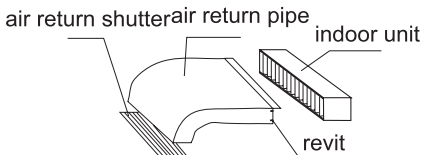

Fig.1
- (1) Cut a hole in the wall and insert connection pipe and connecting wires through a locally purchased PVC pipe. The hole should be inclined slightly downward with an inclination of at least 1/100 (see Figure 1).
- (2) Before cutting the hole, ensure no pipe or rebar is placed behind the cutting position. Avoid cutting a hole at the place of wires or connection pipes.
- (3) Hang the unit on a horizontal and firm roof. If the unit base is not stable, it may cause noise, vibration or leakage.
- (4) Support the unit firmly and change the shapes of connection pipe, connecting wires and drain pipe to make them easily get through the hole.
2. Installation of the air return pipe: Connect one side of the air return pipes to the air return port of the indoor units with rivets, with the other side connected to air return shutter, as shown in Fig. 1.